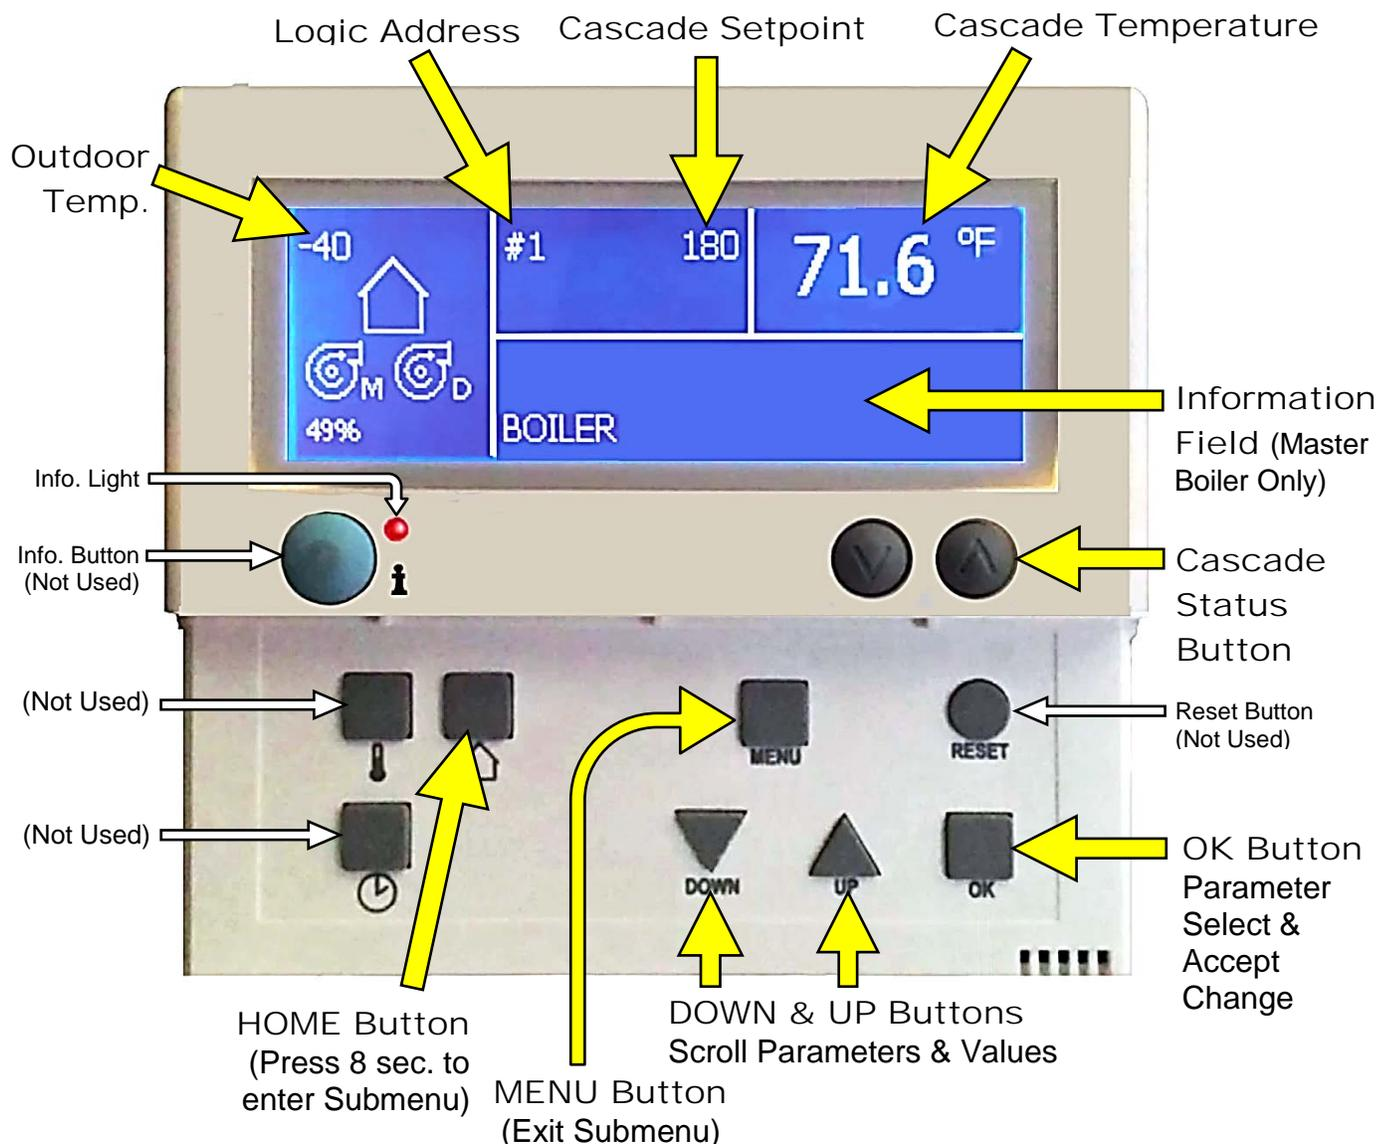
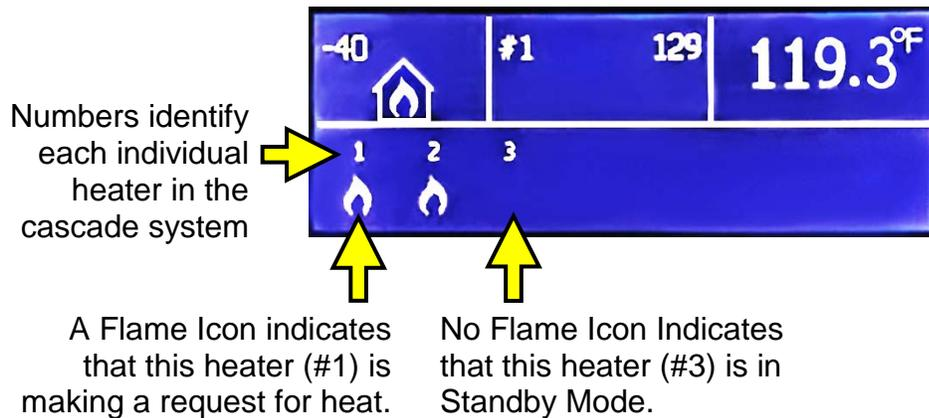
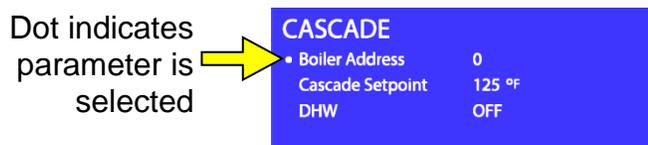

Figure 2-1: Cascade Sequencer Front Panel Features (Lower Cover Open)
Figure 2-2: Cascade Status Display (When Cascade Button Pressed)
Figure 2-3: Sub Menu - Selecting the Parameter to Change
- a) Press and hold the **Home button** (see Figure 2-1 in Chapter 2) for eight (8) seconds, then release the button to display the Sub menu.
- b) Once the Sub menu is displayed (Figure 1-19), use the **Up** or **Down buttons** (Figure 2-1) to scroll through the list of parameters. A dot appears to the left of the parameter to indicate it is selected (Figure 1-19).
- f) To return to the Main menu, press the **Menu button** (Figure 2-1).
The AM Series Cascade Sequencer features a display and lower cover that is opened to reveal a number of buttons, as shown in Figure 2-1. In the default display shown in Fig- 2-1, the icons labeled "M" and "D" in the left display field represent the firing rate and current state of the first and second burners in the master unit and are not important to the function of the cascade manager. Similarly, the information field only refers to the Master boiler.
By pressing the Cascade Status button (Figure 2-1), the lower half of the display will change to show the status of the cascade boilers (Figure 2-2). The designated number for each boiler in the cascade system will be displayed, such as 1, 2, 3, 4, etc., up to 8. If there is a request for heating for any heater, a flame icon will appear under that heater's number. The absence of a flame icon under the number represents a heater in standby mode. If there is a fault, a "wrench" icon will be displayed under the heater's number.
The Cascade Status display shown in Figure 2-2 indicates there are three heaters in the cascade, with numbers 1 and 2 calling for heat, and number 3 in standby mode.
- To access the Submenu, press and hold the **Home button** (Fig. 2-1) for eight seconds, then release.
- Use the **Up** or **Down buttons** (Figure 2-1) to scroll through the list of Submenu parameters. A dot to the left of the parameter indicates it is currently selected (Fig. 2-3).
6. To leave the Sub Menu and return to the Main menu, press the **Menu button** (Figure 2-1).